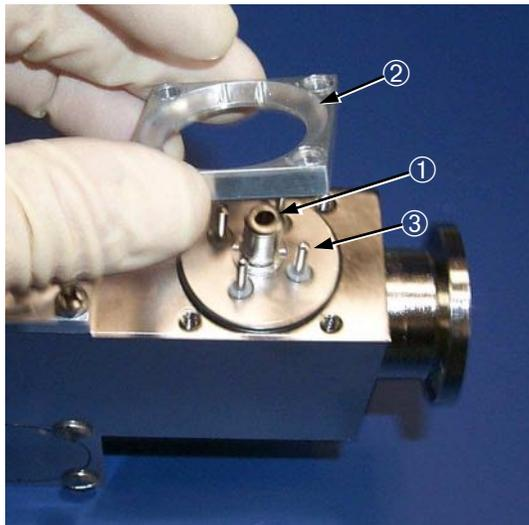

Figure 5-7 Removing the Button TC Header
2. Remove the button TC header ② (Figure 5-7) by pressing down on the button TC center post ① and lifting the header ② up and off of the button TC ③.